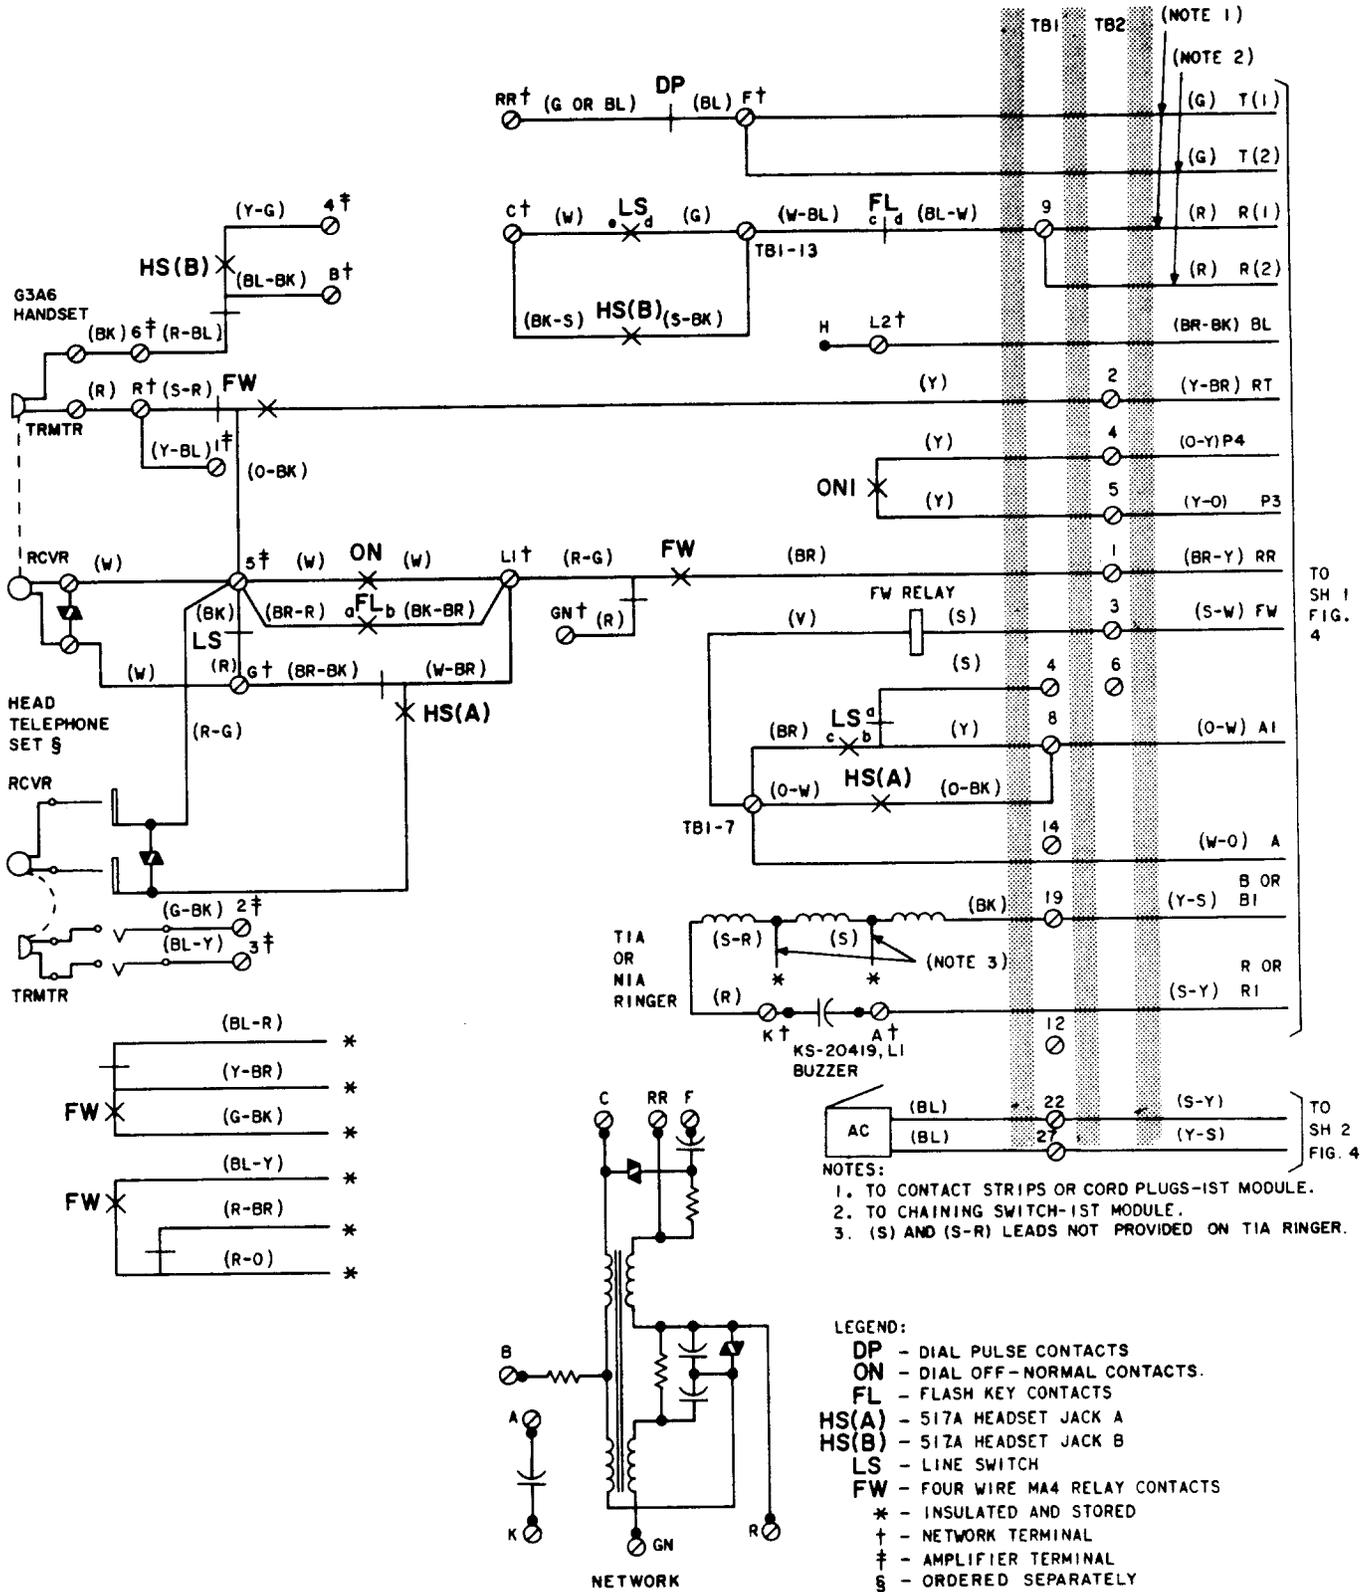

Fig. 1—682AA (MD) and 683AA (MD) Telephone Set, Connections
**1.03** These sets (Fig. 1, 2, and 4) provide headset or handset operation.